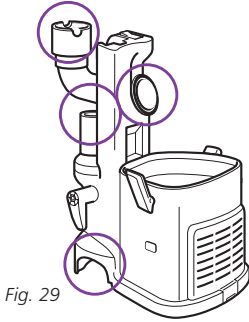

Fig. 29
- Remove the dust cup and extension wand and separate the detachable canister from the motorized floor brush. Look in all 4 openings for any blockages. **(Fig. 29)**